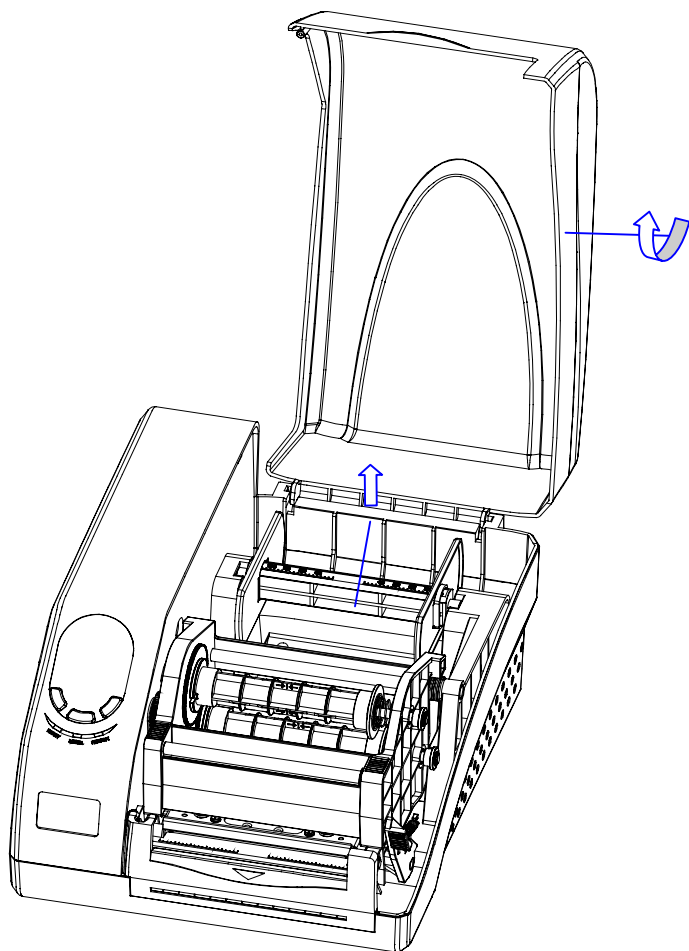

Figure 6-1
1. Lift up the top cover to expose the media compartment (Figure 6-1).